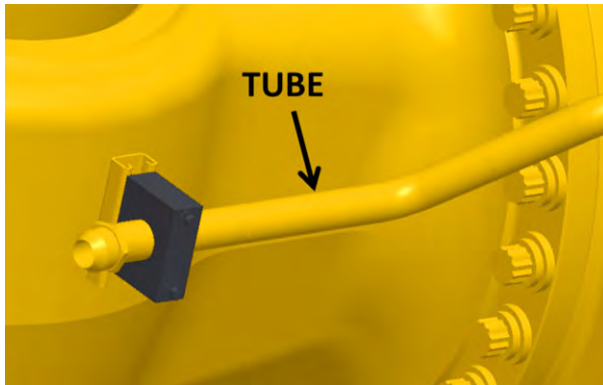

FIGURE 3-26. CLAMP LOCATIONS
7. Loosen clamp hardware and position each tube clamp near the top of the channel as shown in Figure 3-26.